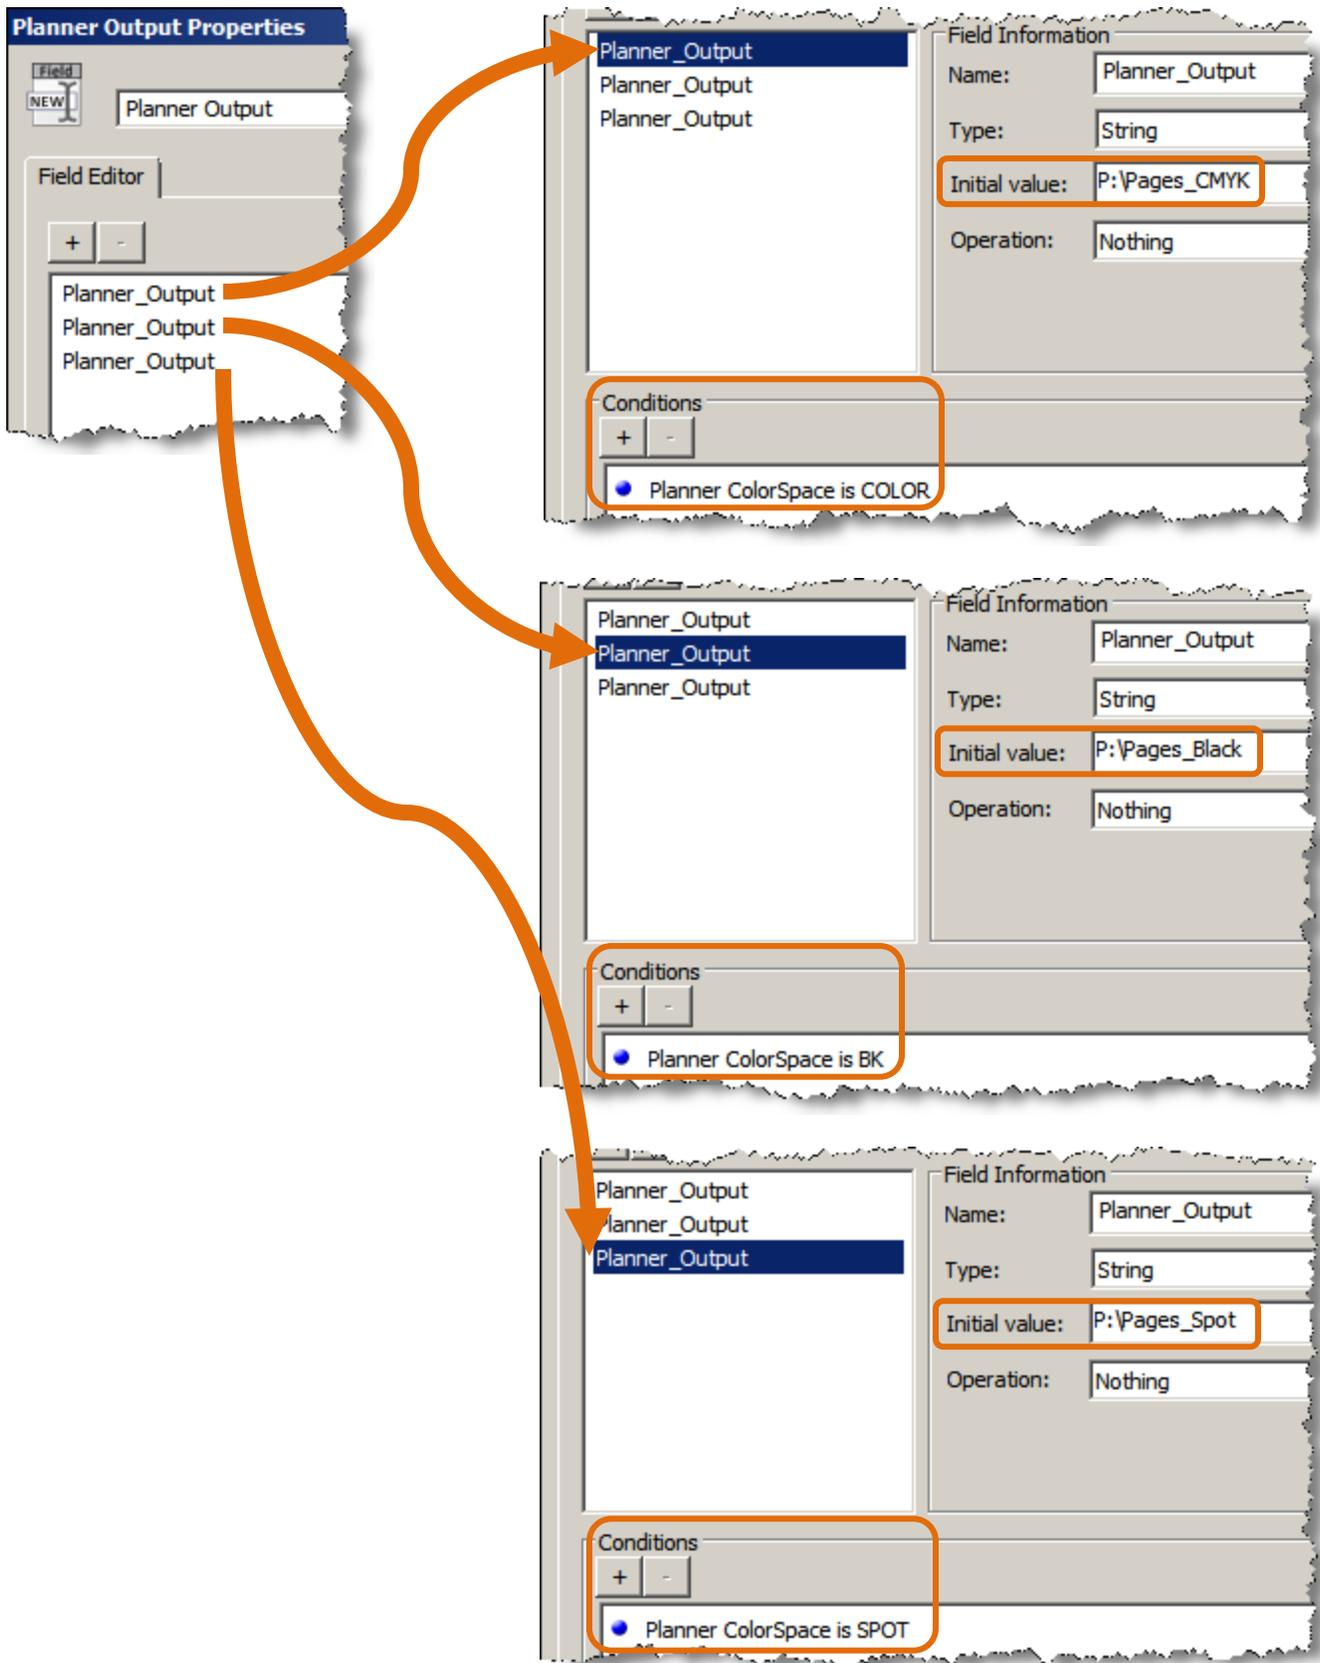

Figure 12 Field Creator Sample III – variable
Since we've defined a field variable whose value will be one of 3 PrePage-it hotfolders, as shown in Figure 12 on p.10, we only need to configure a single **Copy To Folder** node whose **Destination Folder** is the variable `Planner_Output`.
- in the example shown in Figure 12 on p.10: three instances of the variable `Planner_Output` are defined, where each instance has a unique condition (`Planner_Output = process color`, `Planner_Output = black only`, `Planner_Output = spot`) – therefore each page that is processed through this workflow will always correspond to only *one* of these three conditions